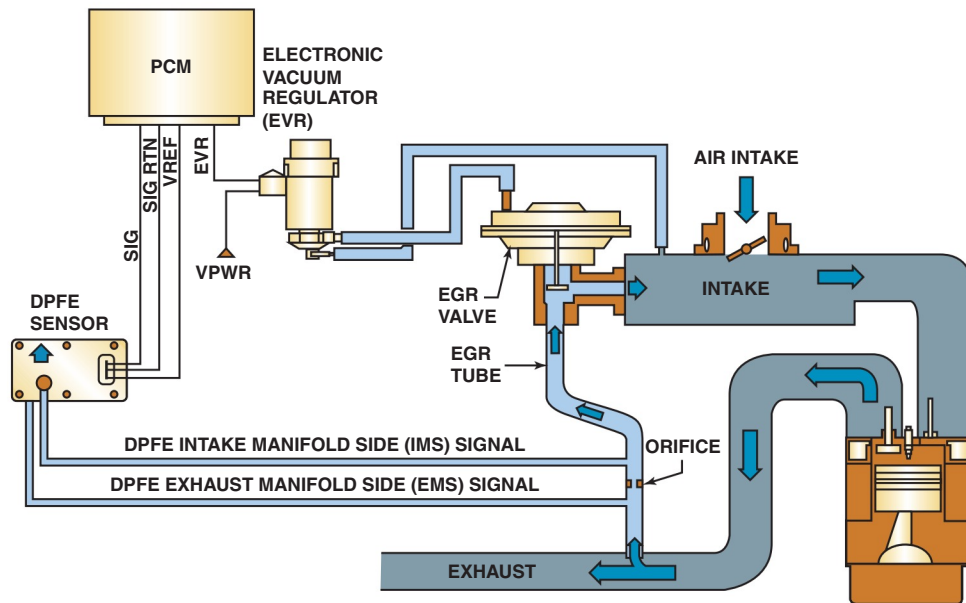

FIGURE 19-8 A DPFE sensor and related components.
- Most Fords use an EGR monitor test sensor called a **delta pressure feedback EGR (DPFE) sensor**. This sensor measures the pressure differential between two sides of a metered orifice positioned just below the EGR valve's exhaust side. Pressure between the orifice and the EGR valve decreases when the EGR opens because it becomes exposed to the lower pressure in the intake. The DPFE sensor recognizes this pressure drop, compares it to the relatively higher pressure on the exhaust side of the orifice, and signals the value of the pressure difference to the PCM. ● **SEE FIGURE 19-8.**